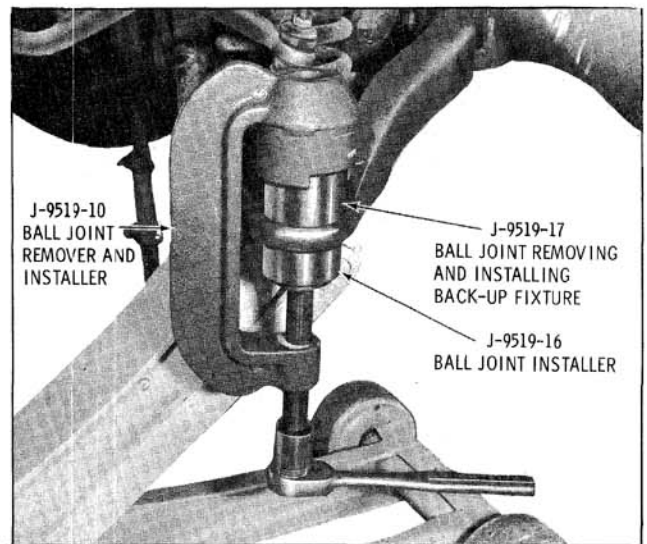

Fig. 9-123 Installing Lower Ball Joint
1. Position ball joint into lower control arm and press in until it bottoms on the control arm using tools as illustrated in Fig. 9-123.